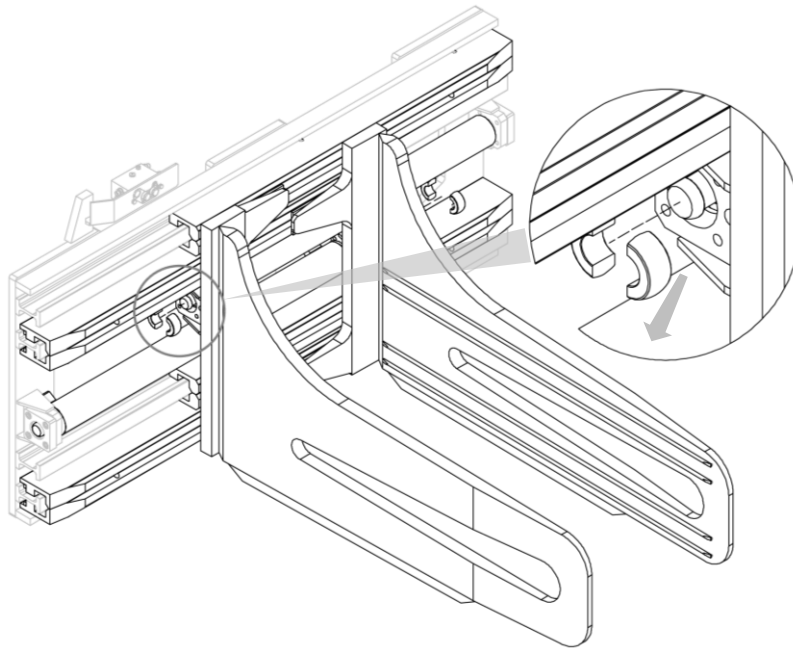

Figure 17
3. Remove the locking collars (see *Figure 17*).